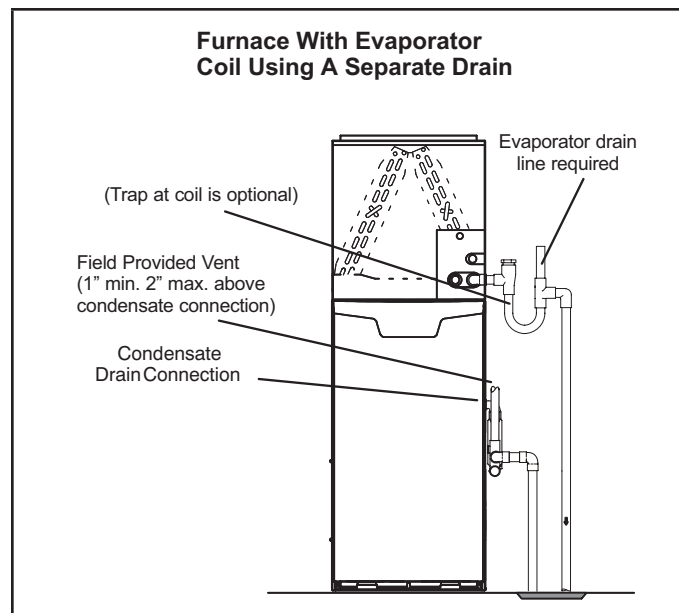
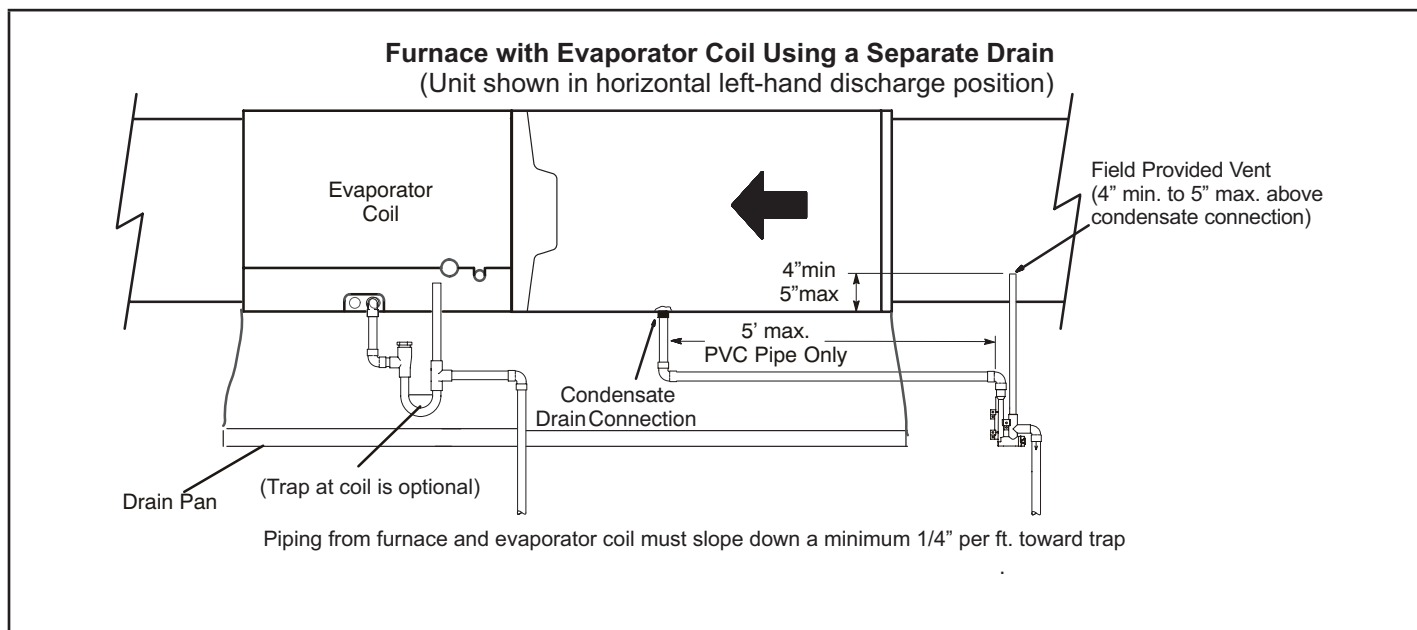
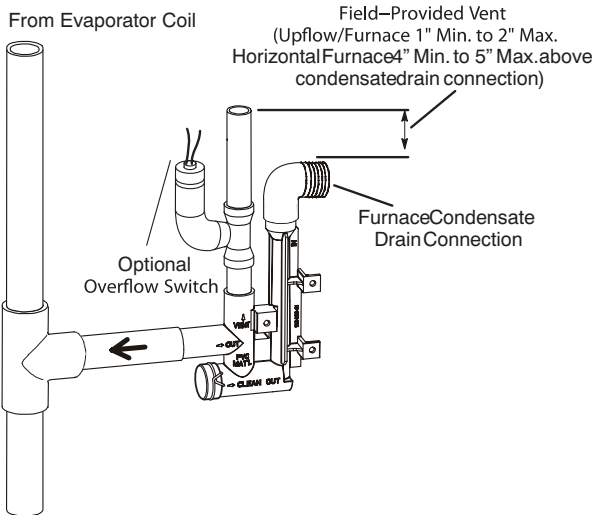
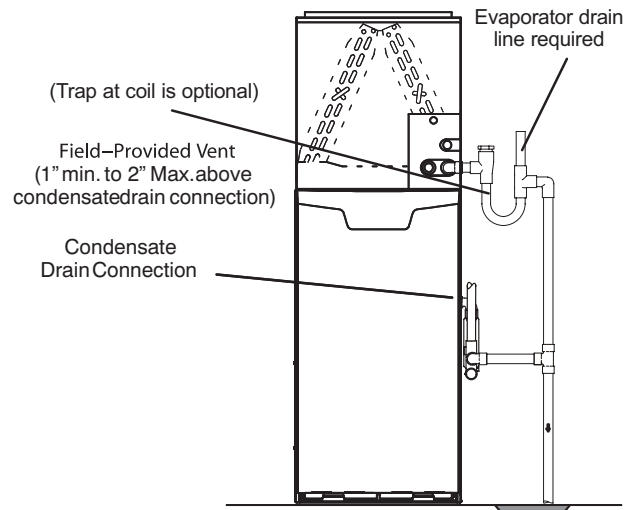

FIGURE 36
FIGURE 37
FIGURE 38
FIGURE 39
- 5 - FIGURE 36 and FIGURE 37 shows the furnace and evaporator coil using a separate drain. If necessary the condensate line from the furnace and evaporator coil can drain together. See FIGURE 38, FIGURE 39 and FIGURE 40. **Upflow furnace** (FIGURE 39) - In upflow furnace applications the field provided vent must be a minimum 1" to a maximum 2" length above the condensate drain outlet connection. Any length above 2" may result in a flooded heat exchanger if the combined primary drain line were to become restricted. **Horizontal furnace** (FIGURE 40) - In horizontal furnace applications the field provided vent must be a minimum 4" to a maximum 5" length above the condensate drain outlet connection. Any length above 5" may result in a flooded heat exchanger if the combined primary drain line were to become restricted.